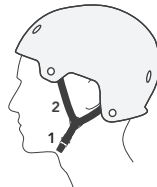

Figure 4.
3. Slide the strap adjustor on the left temple strap (Figure 4) until the strap adjustor sits just beneath your left earlobe.